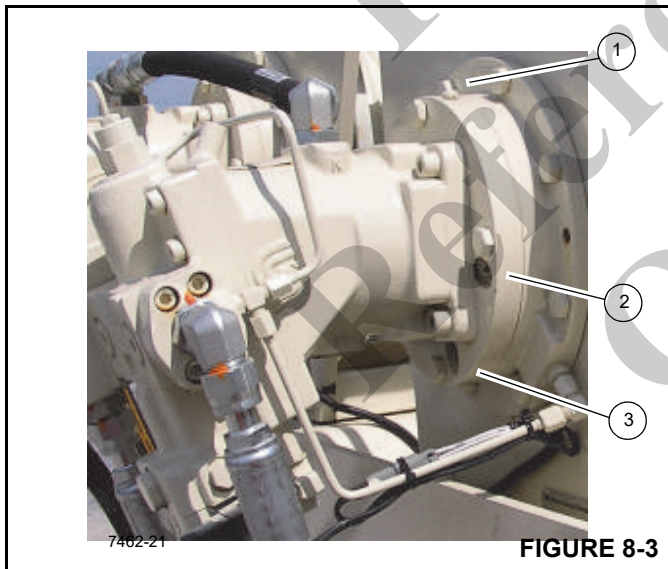

FIGURE 8-3
To check the hoist brake oil, remove the inspection plug (2, Figure 8-3) and visually inspect the oil level. The oil should be visible within the bottom of the inspection hole. If more oil is needed, add through the oil vent/fill plug (1) hole until oil is at the bottom level of the inspection hole.
1. Remove the drain plug (3, Figure 8-3), inspection plug (2), and oil vent/fill plug (1).
3. Reinstall the drain plug (3) and add oil at the brake oil vent hole (1) until oil is at the bottom level of the inspection hole (2). The hoist brake fill capacity is 0.23 L (.25 qt).
4. Install the inspection plug (2) and the oil vent/fill plug (1).
2. Remove the fill/level plug (1) and visually inspect the oil level. The oil should be level with the bottom of the inspection/fill hole. If more oil is needed, add oil. (See Figure 8-3).
3. Install the fill/level plug (1).